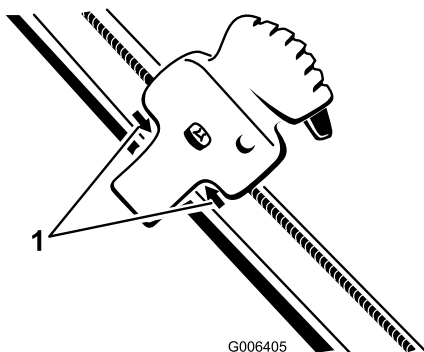

Figure 42
2. Position the Quick Shoot control between the two arrows located on the right hand side of the upper handle (Figure 42).